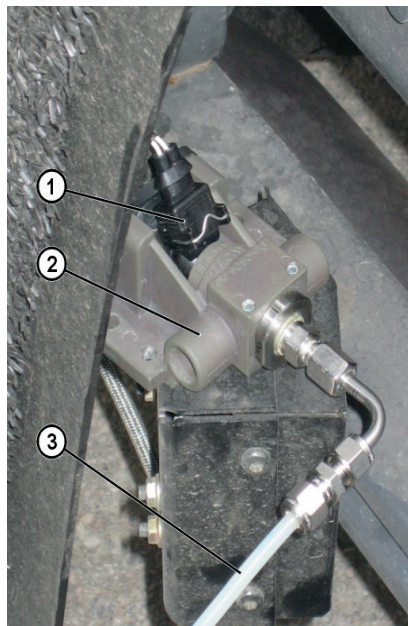

Fig. 7: Pump delivery test_1
5. Disconnect the electrical connector (fig. 7, item 1) from the vehicle-specific metering module and connect to the test metering module (fig. 7, item 2).
6. Connect the test pressure line (fig. 7, item 3) to the test metering module.